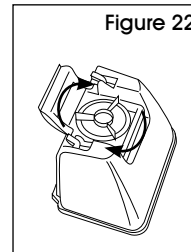

Figure 22
5. Replace cap. Rotate cap clockwise until it locks in place. Cap must be locked in place for proper performance and to prevent leaking. (See Figure 22)